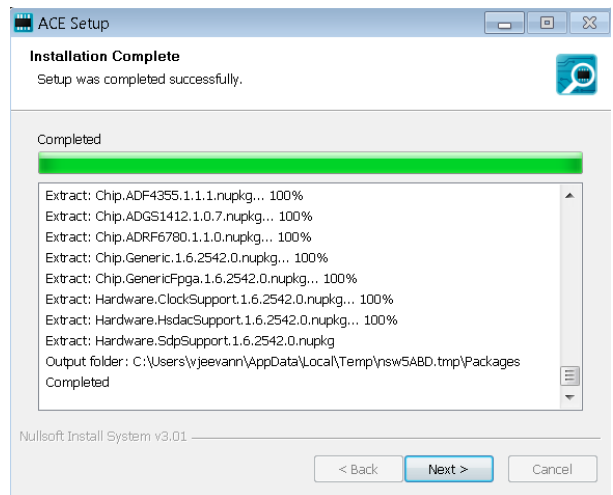

Figure 10. Installation Complete
- When the installation is complete, click **Next >** (see Figure 10), and then click **Finish** to complete the installation process.